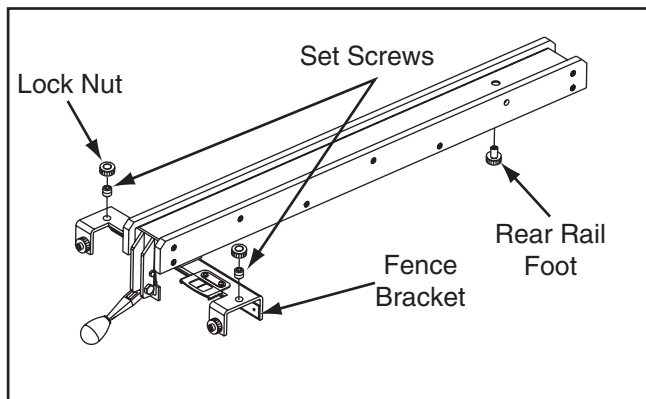

Figure 117. Fence components used to adjust fence height and squareness to table.
3. Adjust the set screws (**Figure 117**) on top of the fence bracket to ensure the fence face is 90° to the table, then tighten the knurled lock nuts.
Note: If the front end of the fence needs to be adjusted up or down, use the set screws from **Figure 117**; however, turn them in even increments and recheck the squareness afterwards.